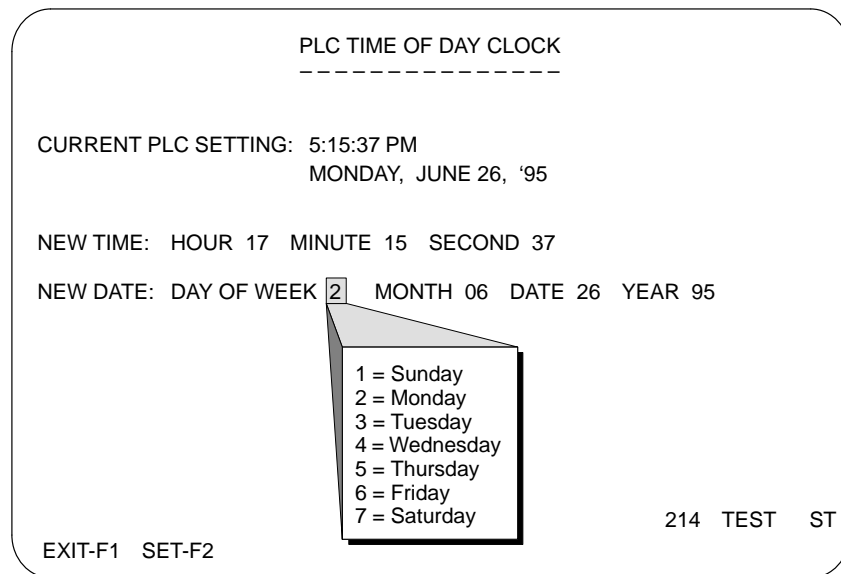

Figure 8-20 PLC Time-of-Day Clock Screen
2. Press **Return**. You receive the screen shown in Figure 8-20.